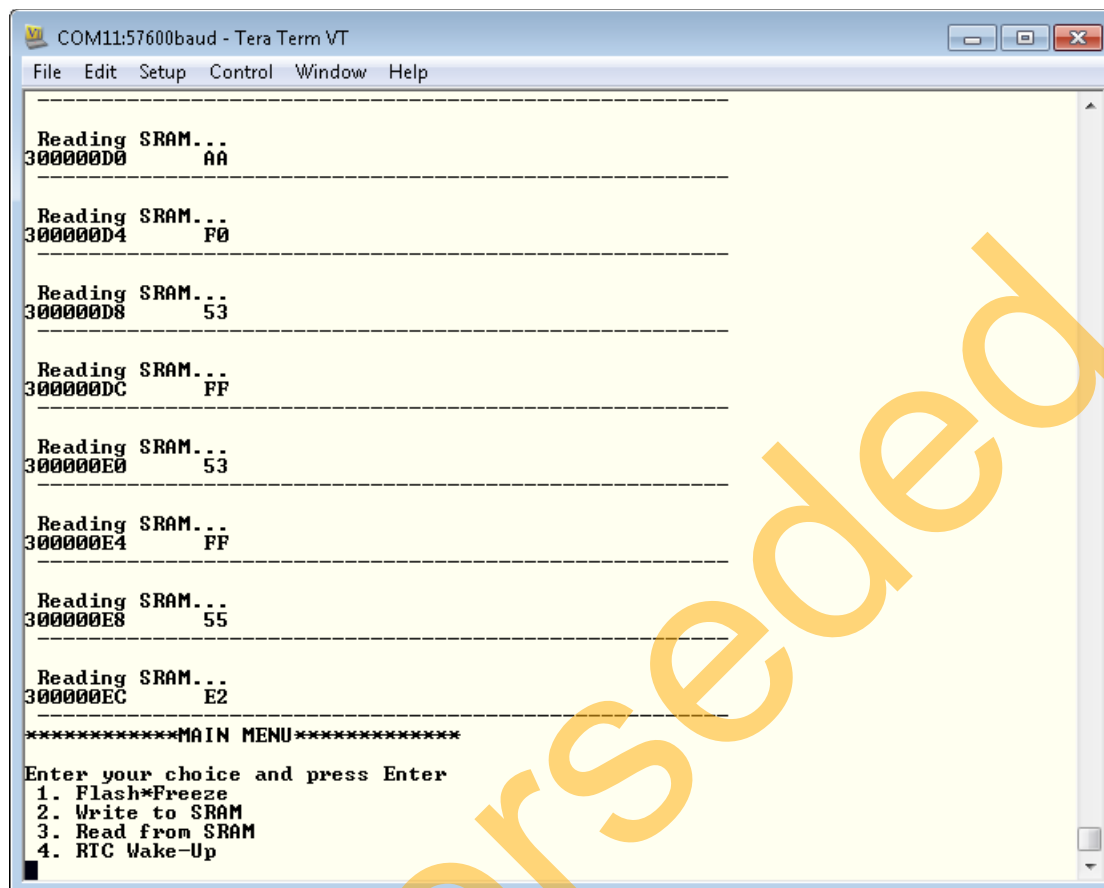

Figure 16 • Reading SRAM Content After F*F
4. Select **3** (Read from SRAM) to read the SRAM content after the device exits from F*F mode. In this design, the SRAM is set for "Suspend" mode during F*F mode so the content of the SRAM is retained. Thus when reading the SRAM content after F*F exit, it is the same data that was stored into the SRAM before entering into F*F mode, as shown in Figure 16 on page 17.